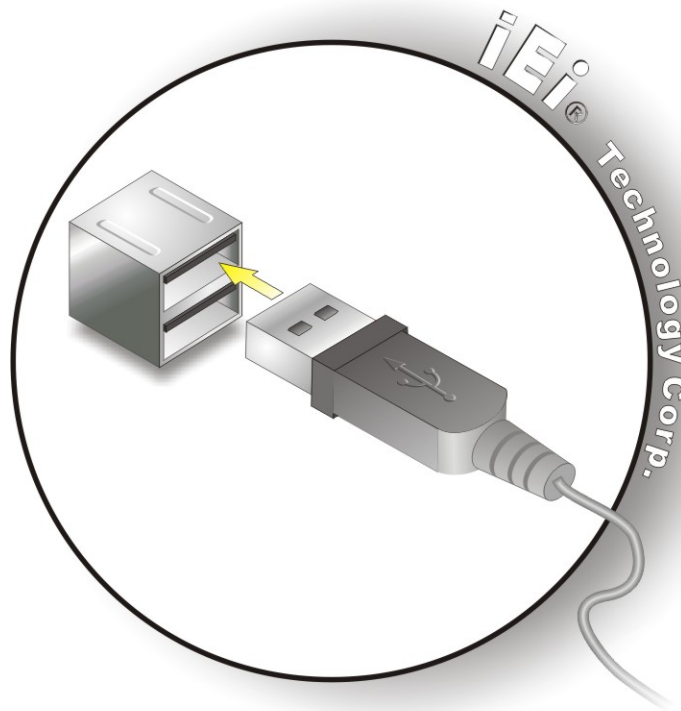

Figure 3-32: USB Device Connection
Step 2: **Align the connectors.** Align the USB device connector with one of the connectors on the bottom panel. See **Figure 3-32**.